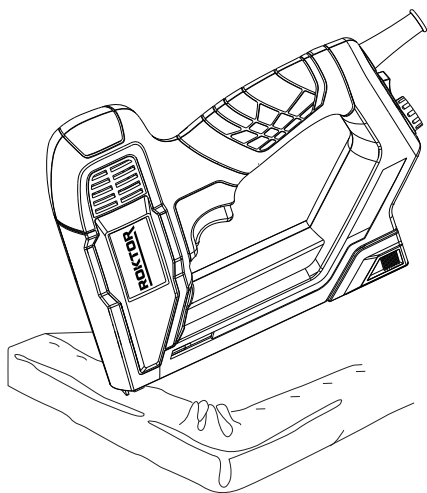

Fig 6
- Fixing textiles (See Fig. 6)